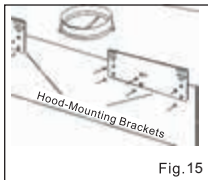

Fig. 15
- Apply with eight (3/16" x 3/8") screws (included) to fix the two hood-mounting brackets (included) to the back of the hood. (Fig. 15)